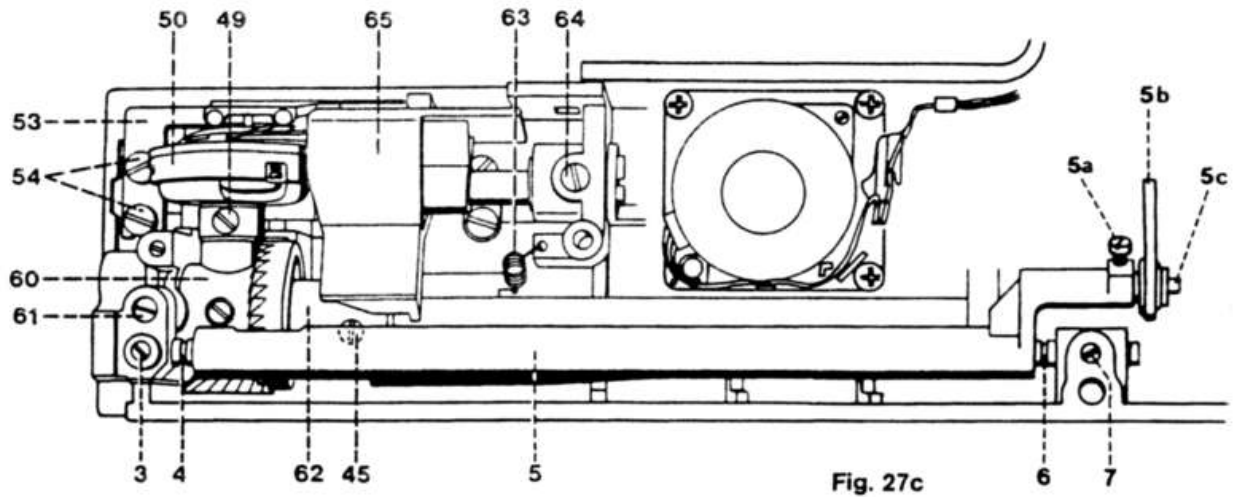

Fig. 27c
- Fit the two springs 14 and 63 (fig. 27c and 27d).